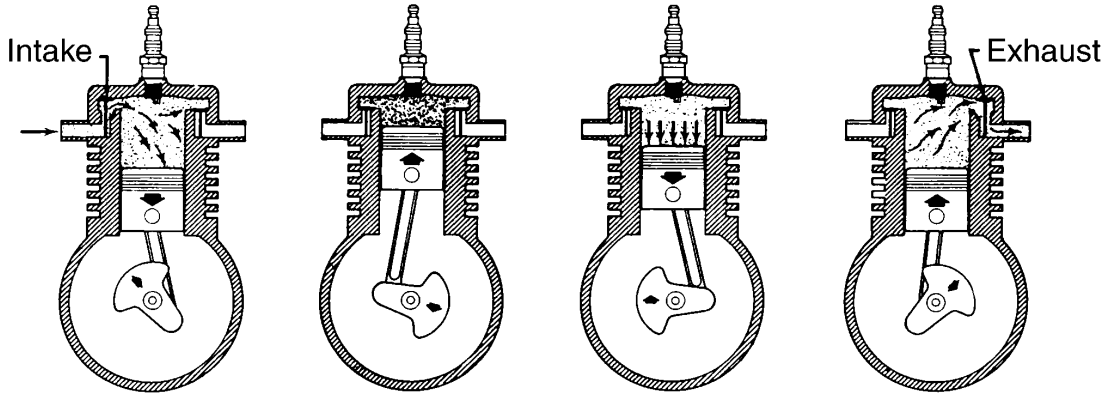

FIG. 3
- (c) Use the following diagrams shown in Figure 3 to assist in explaining the operation of a four-stroke cycle engine.